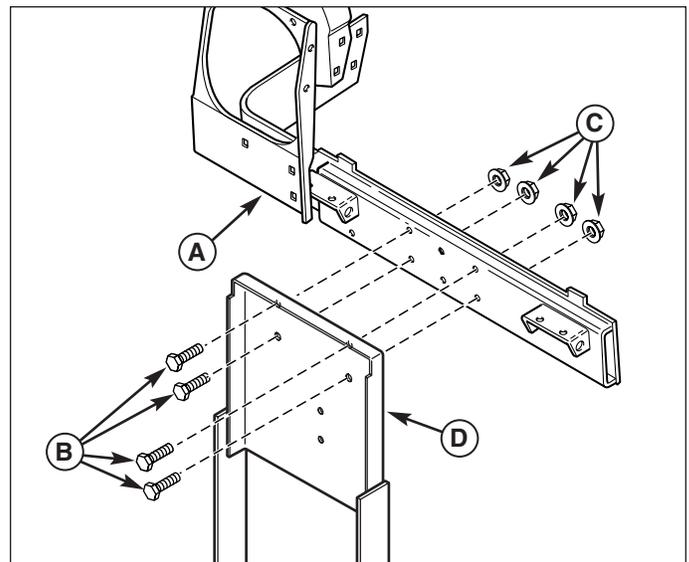

Figure 3. Install Hitch Assembly
1. Install the horizontal support (A, Figure 3) on the back plate (D). Secure with four 3/8-16 x 3/4 cap-screws (B), 3/8-16 locknuts (C).